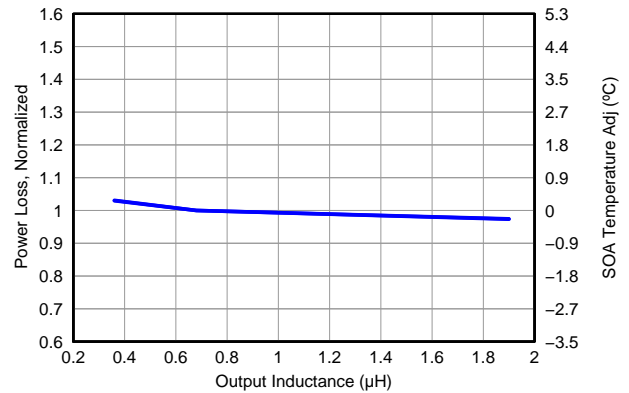

Figure 9. Normalized Power Loss vs. Output Inductance
- Normalized Power Loss for output inductor  $\approx 1.05$  (Figure 9)
- SOA adjustment for output inductor  $\approx 0.45^\circ\text{C}$  (Figure 9)